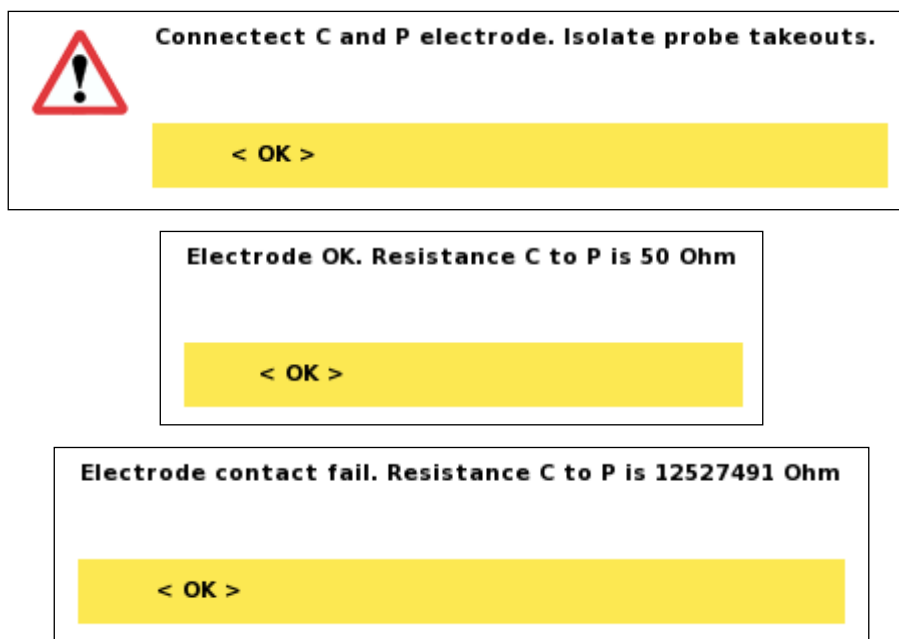

Figure 78 The Electrode Test dialogs
- Follow the instruction on the first dialog (Figure 78)